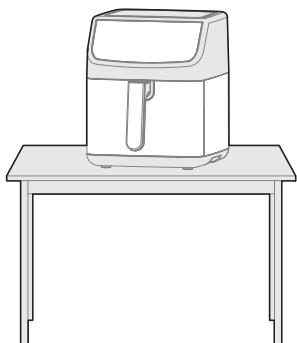
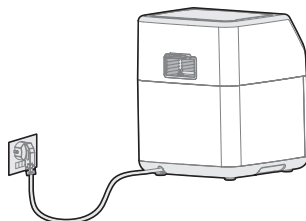

Fig. 1
Fig. 2
1. The product should be steadily put on the flat desk (Fig. 1), so that the power line is long enough to plug in the socket (Fig. 2); the surrounding air of the product should be ventilated and it cannot get close to the flammable substance.